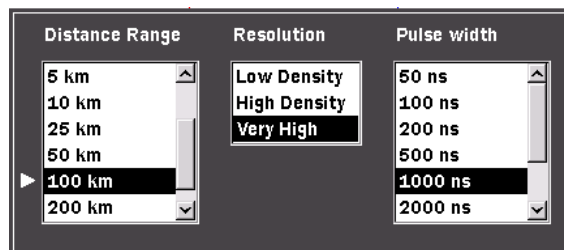

Figure 4-22: Range/Resolution/Pulse Width Dialog box
- Press **Range/Pulse Width (f4)**, the Distance Range, Resolution, and Pulse width dialog box appears (see Figure 4-22 on page 4-69).